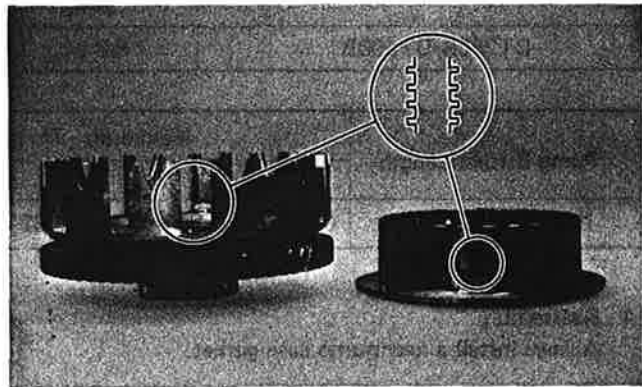

Fig. 3-3-29
7. Check dogs on driven gear (clutch housing). Look for cracks and signs of galling on edges. If moderate, deburr. If severe, replace. (Fig. 3-3-29)